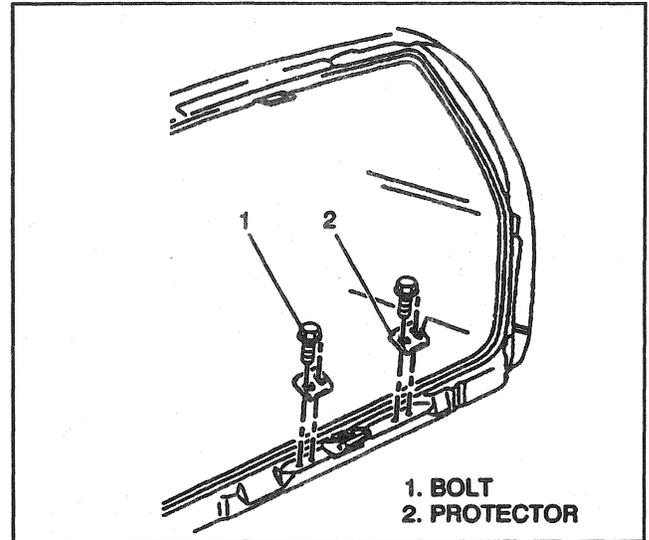

Figure 85—Rear Cargo Door Protectors
**Remove or Disconnect (Figure 85)**
**Install or Connect (Figure 85)**